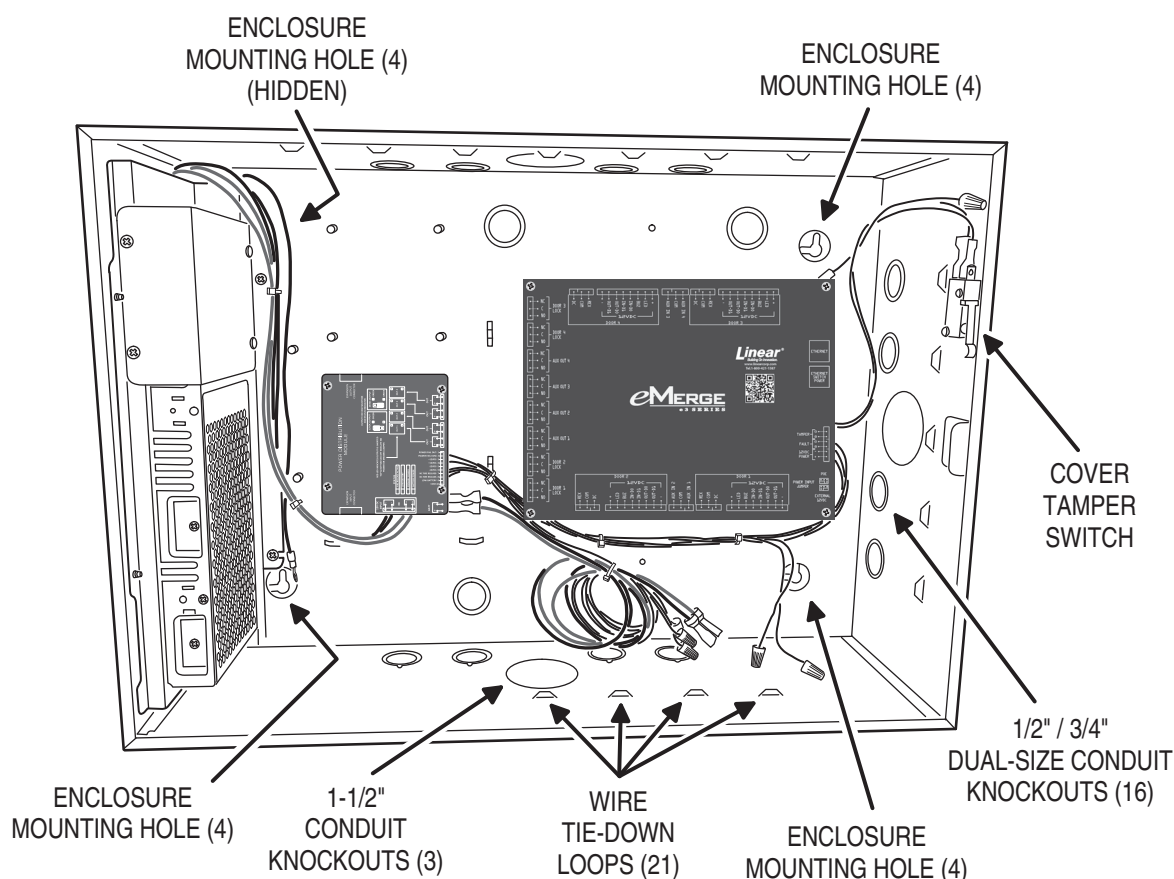

Figure 1. Power Distribution Module Connections & Features
3. Remove any metal cabinet knockouts required for wire entry (see Figure 1).